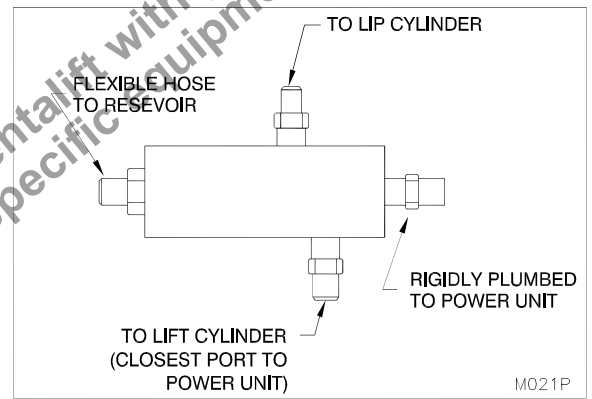

Figure 50: Pentalogic Hydraulic Manifold
4.      Connect the two (2) hydraulic lines to the Pentalogic hydraulic manifold on the power unit (one hydraulic hose from lip cylinder, and one hydraulic hose from lift cylinder.) See, “Figure 50: Pentalogic Hydraulic Manifold” on page 38.